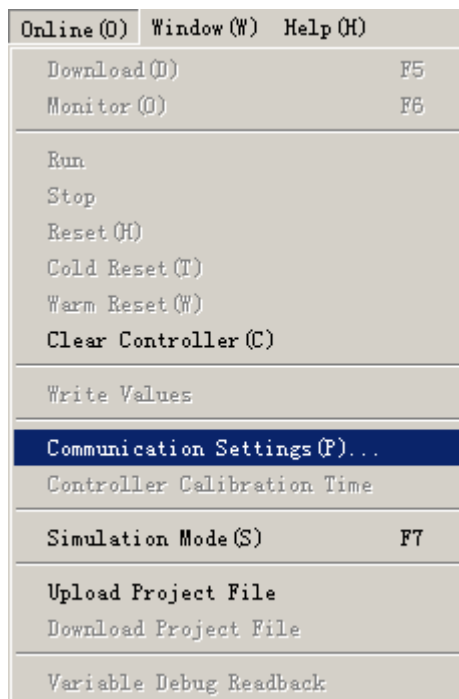

Figure 56 Online Menu
Step 1. Select [Online]-[Set Communication] in the menu bar of Safety FA-AutoThink software, as shown in Figure 56.